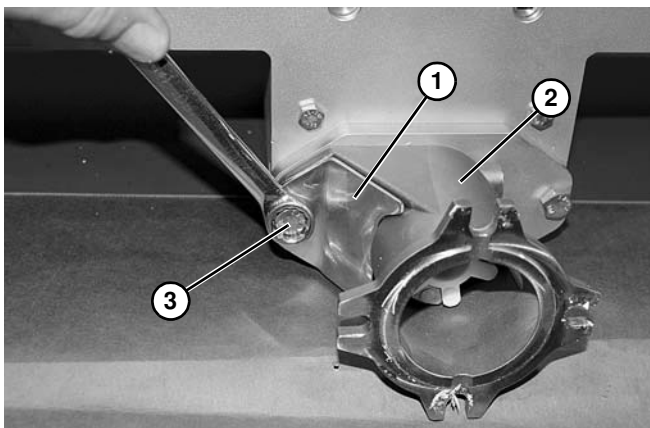

Figure 21
4. Attach angle guard (Figure 21, item 1) to mounting bracket (Figure 21, item 2) with screw (Figure 21, item 3).